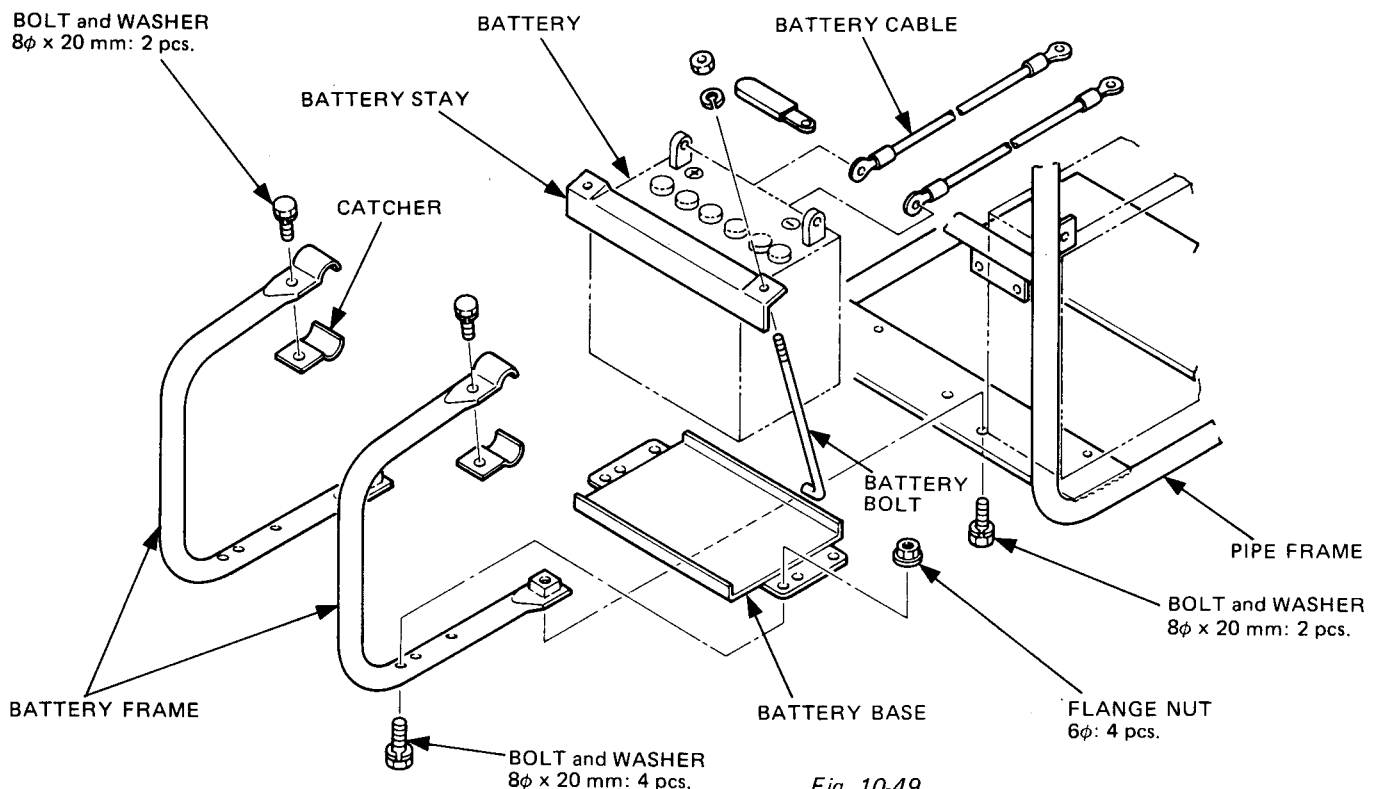

Fig. 10-49
- (1) Attach BATTERY FRAMES to the frame. (See Fig. 10-49.)